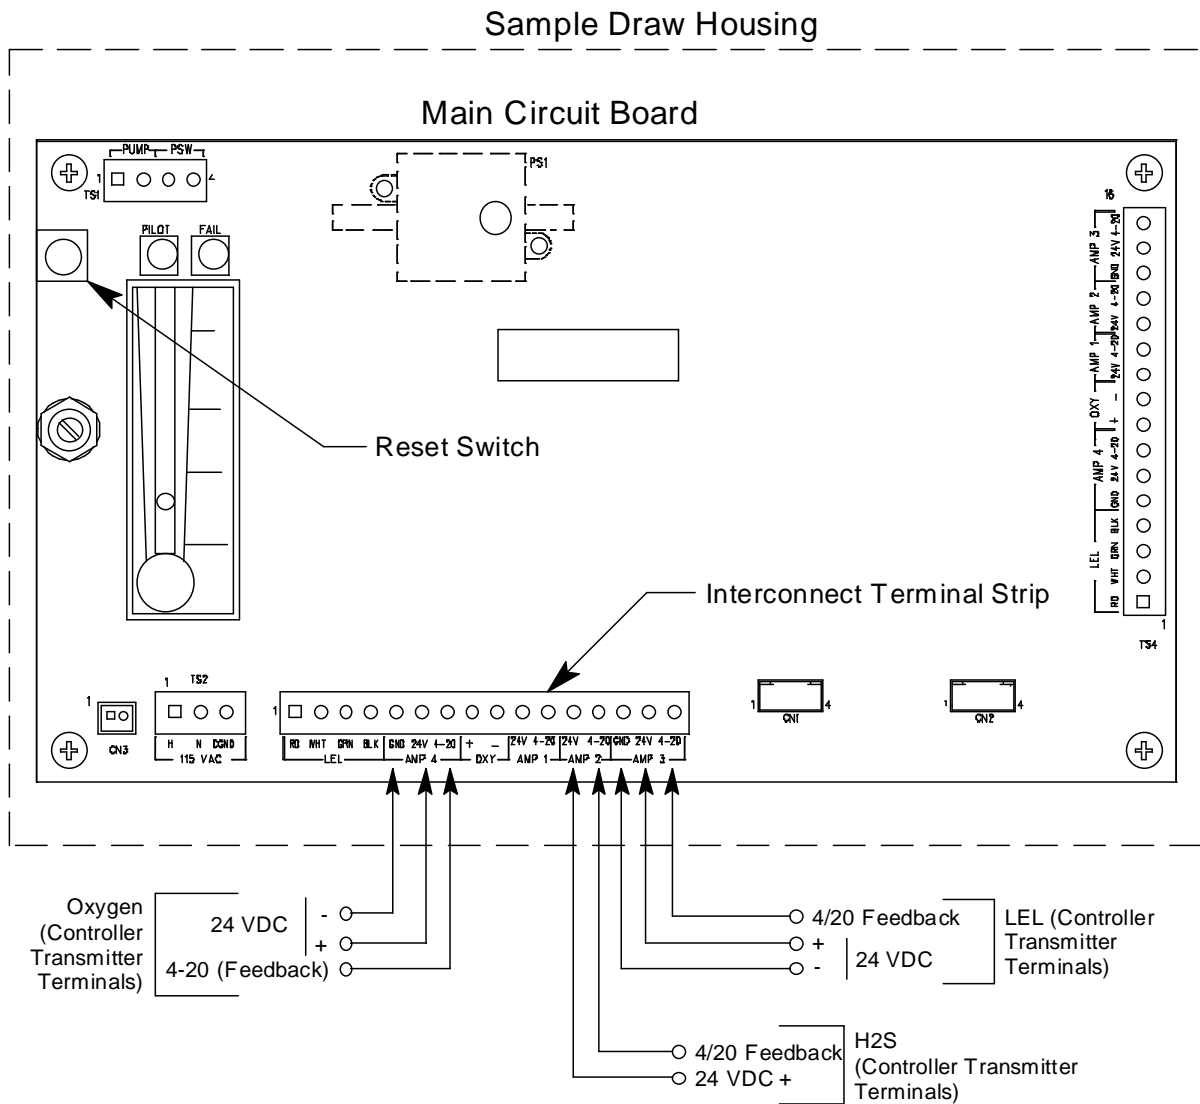

Figure 6: External (Field) Wiring, Sample-Draw Detector
5. Connect the cable to the sample-draw detector's interconnect terminal strip as shown in Figure 6.